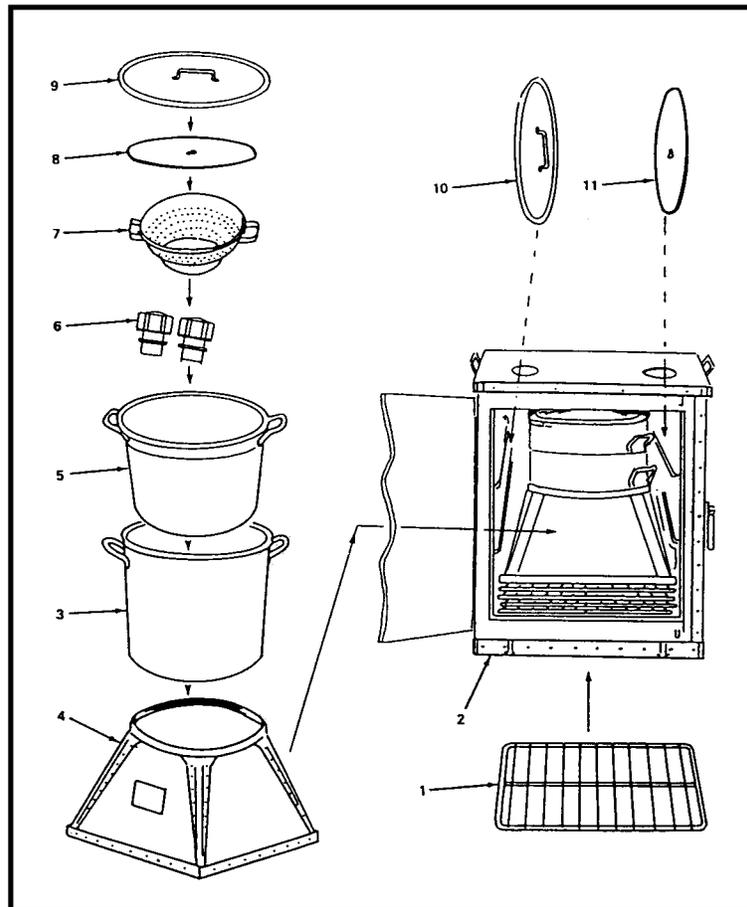

Figure 2-13. Modular oven assembly.
- 5. Assemble the oven for transport. (See Figure 2-13.)